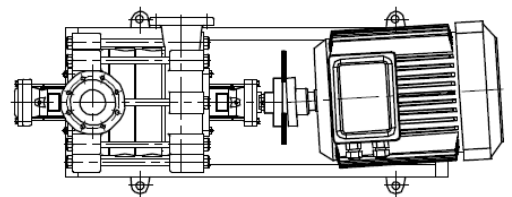

Fig. 4a. Angle error in horizontal plane and to settle
- Alignment errors can be either on vertical plane or horizontal plane. On vertical plane alignment is corrected by inserting shims under the pump or motor foot, and on horizontal plane alignment is corrected by sliding the pump and/or motor horizontally sideways by using the gaps at mounting holes. *Fig. 4a, 4b, 4c, 4d* show alignment of coupling step by step.